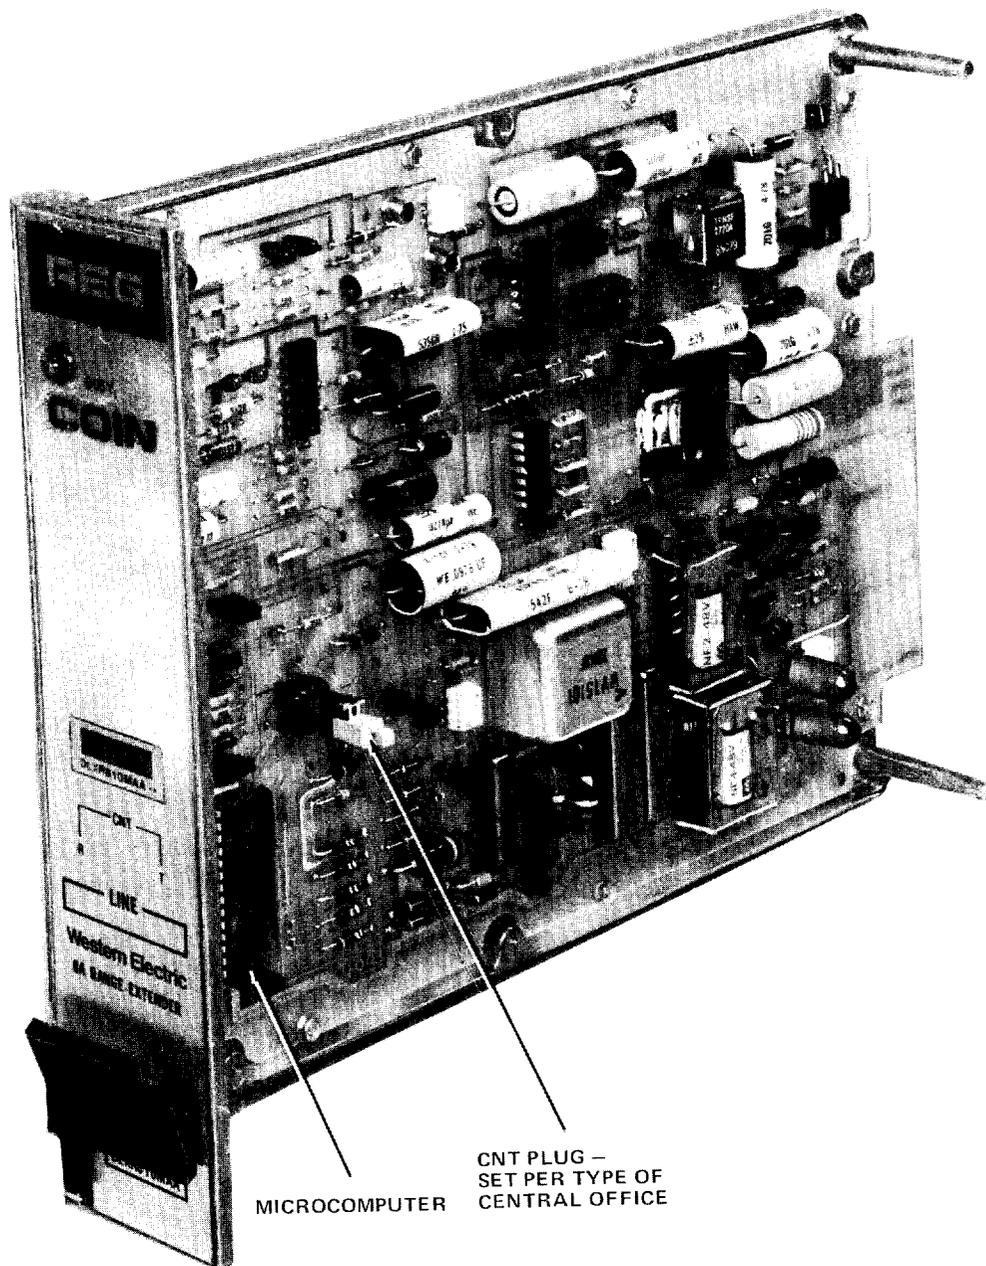

Fig. 1—Component Layout of the 8A Coin REG
**2.01** The 8A Coin REG shown in Fig. 1 is a single plug-in unit consisting of a printed wiring board and associated electronic components housed in a die-cast aluminum frame. The unit, which measures 1.7 inches wide, 8 inches high, and 11 inches deep, is compatible with existing J98625 REG mounting arrangements (SD-97722-02) and J98631A mini-REG bay arrangement (SD-97762-01). Power for operation of the 8A Coin REG except the 8A repeater (see paragraph 2.05), is derived from -48 Vdc office battery.
**6.08** The front panel of the Coin REG is labeled with letters T and R as shown in Fig. 1. After the 8A is installed, the position of the CNT plug may be recorded by marking (circling) either the T or R on the front panel.